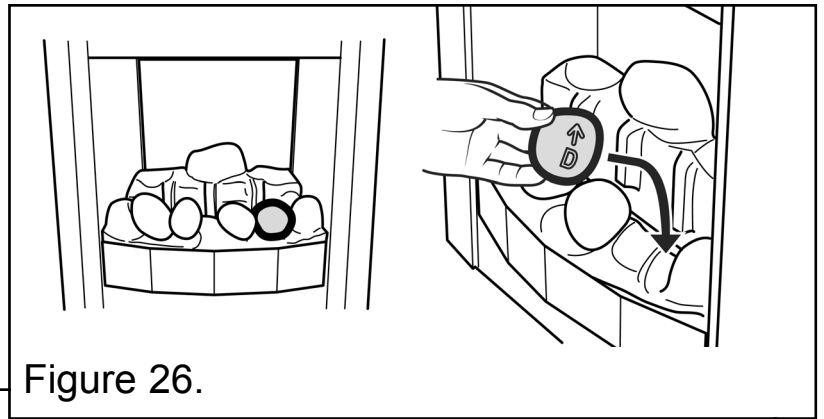

Figure 26.
7. Hold pebble 'D' upright with the arrow pointing to the top. Place pebble "D" on top of the base front pebble. It should rest against the moulded pebble to its right. (See figure 26).